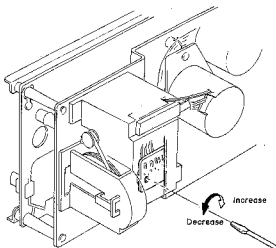

Fig. 4.3
- (1) Remove the Top Cover.
- (2) Connect a Frequency Counter to the Output Jack.
- (3) Load a 3 kHz Wow/Flutter Tape (DA09006A) and play it back.
- (4) Referring to Fig. 4.3, adjust the Tape Speed Adjustment Volume VR407 on the Speed Cal. P.C.B. to obtain 3,000 Hz on the Frequency Counter.